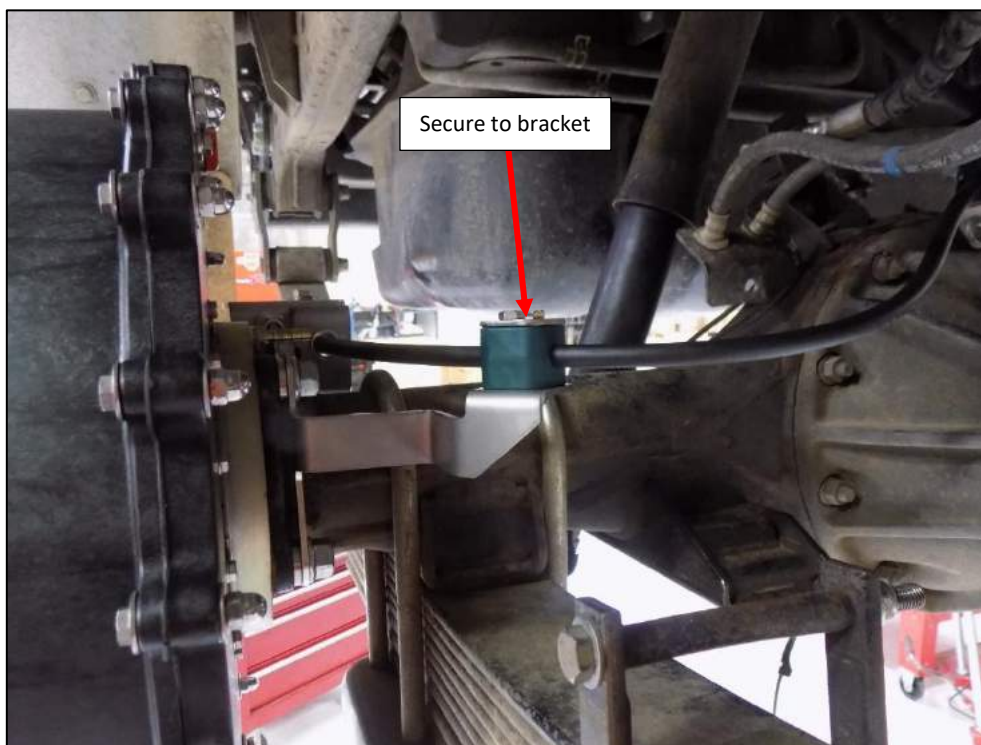

Figure 37
27. **[Axle Flange mount type bracket].** The RH-1 cable clamp attaches to the bracket mounted off the brake mounting studs (Figure 37). Do not tighten at this stage.